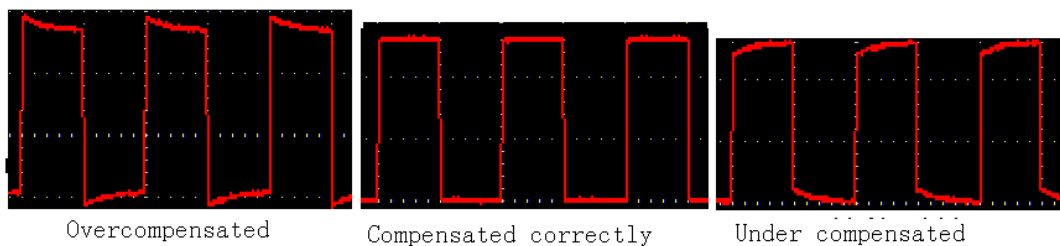
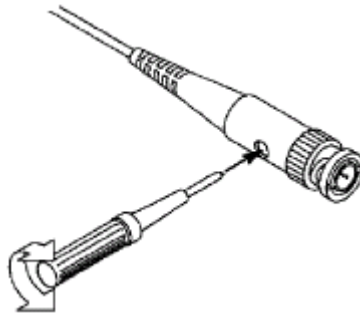

Fig. 5 Displayed Wave Forms of the Probe Compensation
Fig. 6 Adjust Probe
2. Check the displayed wave forms and regulate the probe till a correct compensation is achieved (see Fig. 5 and Fig. 6).